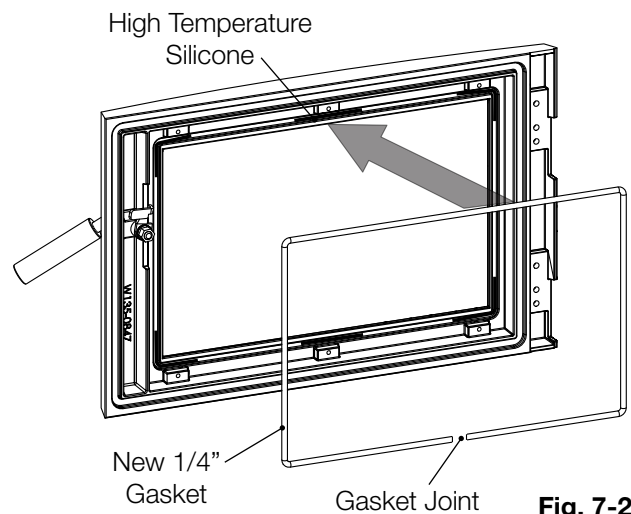

Fig. 7-2
4. Apply **high temperature silicone** (not supplied) in the gasket groove as illustrated (**Fig. 7-2**).
5. Cut the 1/4" gasket (supplied) to size and place on top of the silicone. Press the gasket down firmly to ensure it stays in place. Ensure the gasket joint is at the bottom as illustrated (**Fig. 7-2**).